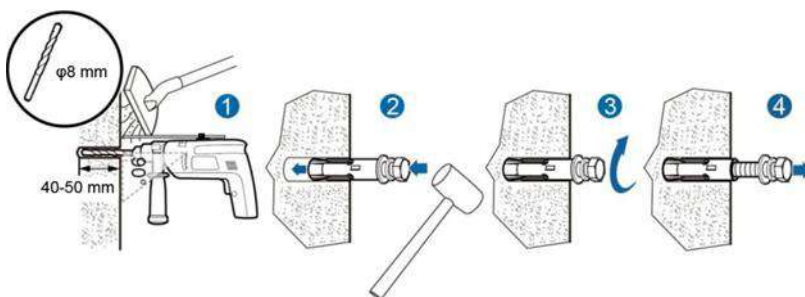

Figure 4.8 Install expansion bolts
- (3) Fix the expansion bolts to the 4 installation holes with hammer, as shown in Figure 4.8.